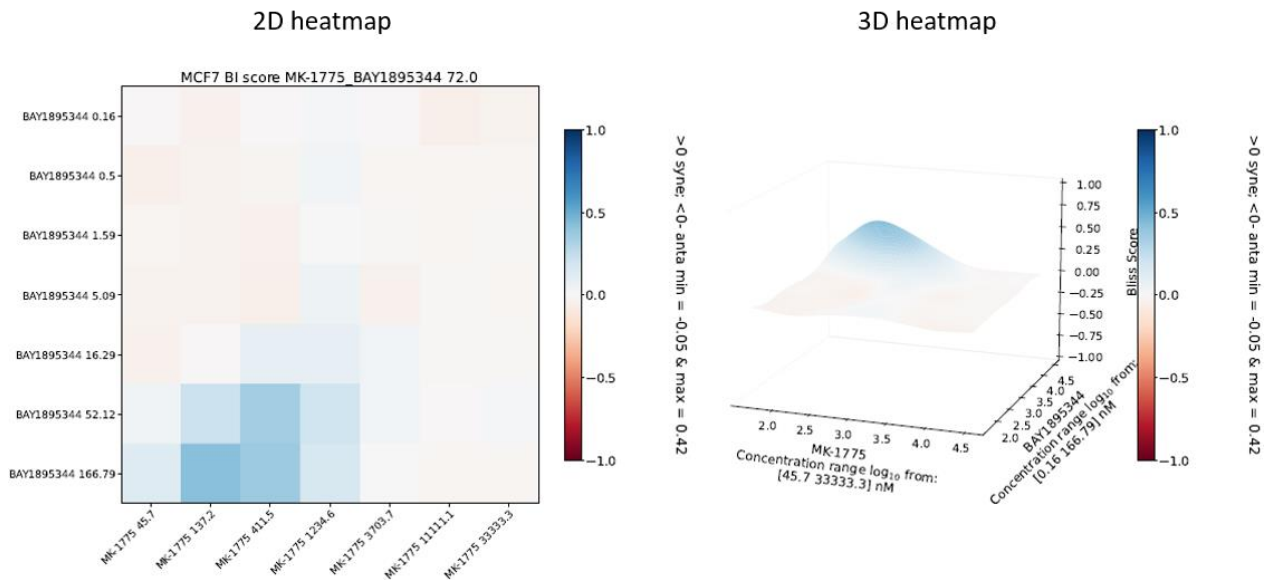

Figure 26: A heatmap 2D and 3D shown for the time point 72h, in case of (n x n) matrix combination.
- 2D and 3D heat map in case of (n x n) matrix combination, Figure 26.
- Heatmap 2D and 3D for the main time points, only in case of (n x n) matrix combination, Figure 26.